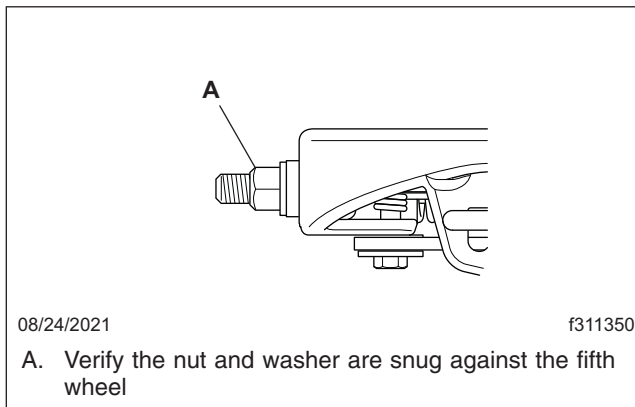

Fig. 17.14, Nut and Washer Snug Against Locked Holland FW35/31
- Verify that the nut and washer are snug against the fifth wheel as shown in Fig. 17.14.